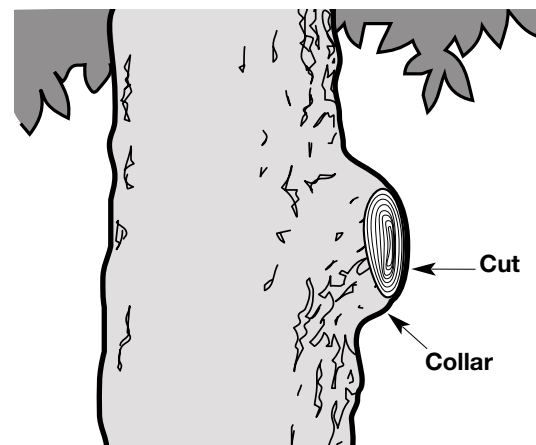

Fig. 14
3. Cut to the outside of the branch collar to avoid damage to the tree (Fig. 14)